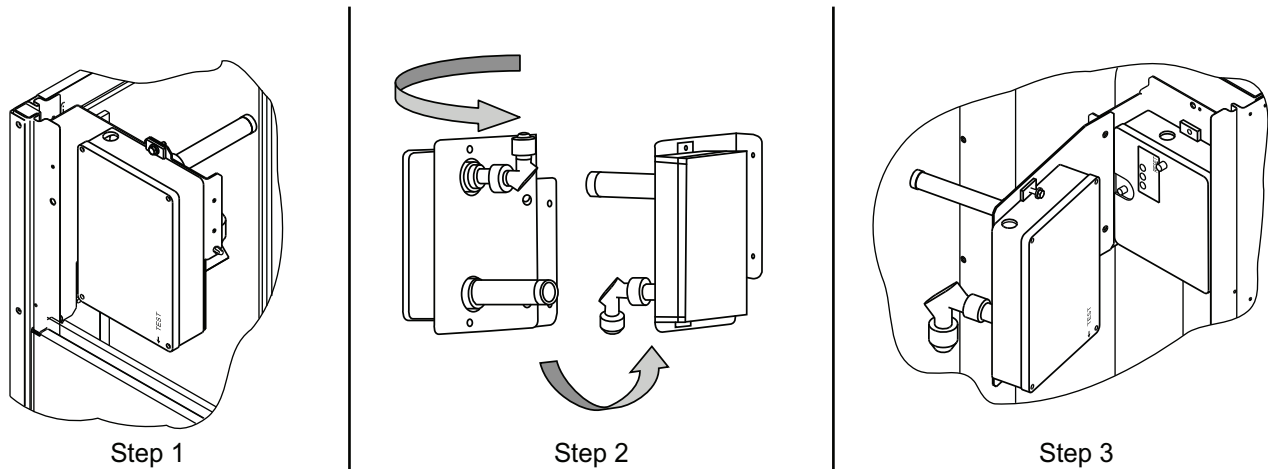

Fig. 63 — Completing Installation of Return Air Smoke Sensor
1. Unscrew the two screws holding the return-air smoke detector assembly. See Fig. 63, Step 1.
3. Turn the assembly 90 degrees and then rotate end to end. Make sure that the elbow fitting is pointing down. See Fig. 63, Step 2.
4. Screw the sensor and detector plate into its operating position using screws from Step 1. See Fig. 63, Step 3.